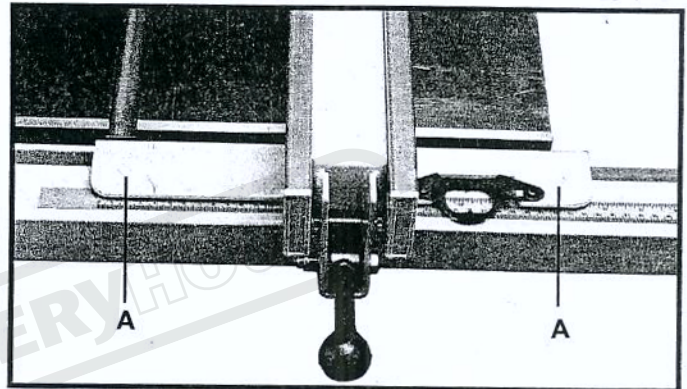
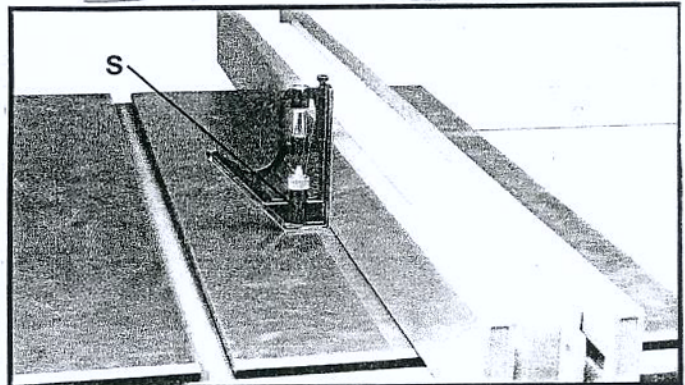
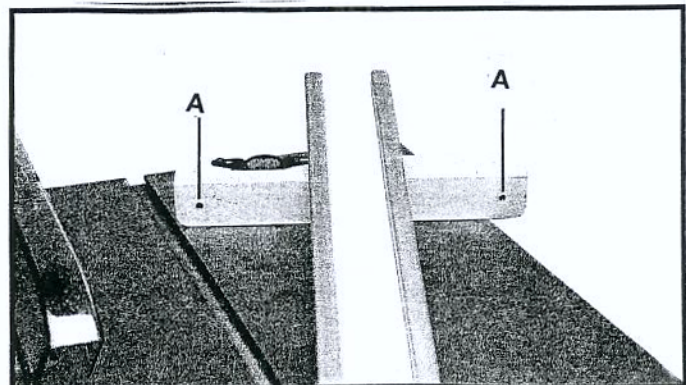

FIG 2
FIG 3
Fig. 4
1. Installation and removal of arbor extension Page 5, Section A (4)
2. Installation and removal of saw blade Page 5, Section A (5)
3. Adjustment of table parallel with saw blade Page 5, Section A (8)
4. Adjustment of blade guard Page 7, Section C (5)
B. BLADE HEIGHT ADJUSTMENT (Figure 4)
3. The blade height mechanism has upper and lower limit stops (Figure 3, Ref. Nos. 12 and 63). These limit stops are set at the factory and need no further adjustment.
C. BLADE TILT ADJUSTMENT (Figure 4)
- i. Loosen locknut (Figure 3, Ref. No. 31) on adjusting screw (Figure 3, Ref. No. 33) and turn adjusting screw clockwise.
- iii. When exactly at 90°, turn adjusting screw (Figure 3, Ref. No. 33) against the lug on the front trunnion (Figure 3, Ref. No. 27). Do not turn too far. Recheck 90°.
- iv. Tighten locknut (Figure 3, Ref. No. 31) securely.
- v. Check tilt indicator pointer. If necessary adjust pointer so it points to the "0" degrees mark on the scale. To adjust pointer, remove hand wheel (Fig. 4, Ref. No. 30) and loosen screw (Figure 3, Ref. No. 21). Be sure to tighten screw securely after adjustment is completed.
- d. If 45° adjustment is necessary, adjust 45° stop in the same manner as the 90° stop. The only exception is that the adjustment bolt and locknut (Figure 3, Ref. Nos. 32 and 31) are on the other end of the rack. Adjust the indicator if necessary.
THIS 12" SAW FENCE BRACKET THERE IS TWO NYLON SCREW (SEE FIG 2)A) CAN BE ADJUST RAISE OR LOWER TO CONTROL THE FENCE 90° TO THE TABLE, USED A SQUARE ON THE TABLE NEXT TO THE FENCE UNTIL THE FENCE IS 90° TO THE TABLE BY ADJUSTING SCREW. (SEE FIG 3).
PLACE THE FENCE NEXT TO THE EDGE LINE OF THE MITRE SLOT AND LOCK IT THE FENCE MUST BE EVEN WITH THE MITRE SLOT FROM FRONT TO REAR. IF NOT, ADJUST ONE OF TWO SETS SCREW LINE (SEE FIG 4)A) UNTIL THE FENCE IS EVEN WITH THE MITRE SLOT EDGE LINE ALONG ITS WHEN BE LOCKED.
- c. ADJUST TWO SET SCREWS WITH 4mm ALLEN WRANGE UNTIL THE FENCE IS HELD SECURELY (SEE FIG 4)A) WHEN THE LOCK HANDLE IS PUSHED DOWN.
A BOTH OF INCHES AND METRIC MEASURE SCALE HAS BEEN BUILT ON THE GUIDE RAIL AT THE FACTORY WHEN THE FENCE LEFT SIDE NEXT THE BLADE RIGHT SIDE LINE LENS INDICATE SHOULD BE POINT ON THE "0" POSITION IF NOT LOOSE 2 ROUND HEAD SCREW REMOVE LENS INDICATE BRACKET TO POINT ON "0" POSITION (SEE FIG 4).
Dado sets have different characteristics than saw blades. As a result, the table saw must be fitted with special parts that are furnished with the saw. The Dayton stationary saw dado set maximum capacity is 5/8" I.D. x 8" O.D. x 13/16" width. When using a dado set the following parts must be substituted (see Figure 3):
- Dado table insert (Figure 4, Ref. No. 52)